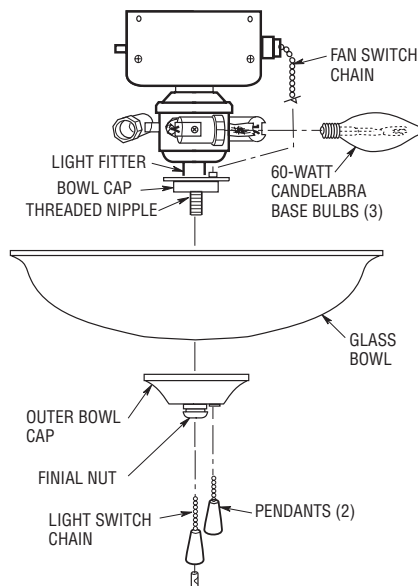

Figure 11
- 7. Install three 60-watt (maximum) candelabra base light bulbs (not supplied) into the light fitter sockets (Figure 11).
- 8. Remove the finial nut and outer bowl cap from the light fitter (Figure 11).
- 9. Pass the fan switch chain through the bushing in the bowl cap (Figure 11).
- 10. Position the glass bowl over the threaded nipple and seat bowl on bowl cap (Figure 11). Pass the fan pull chain through the bushing in the outer bowl cap and install the cap on the threaded nipple. Install nut finial finger tight.